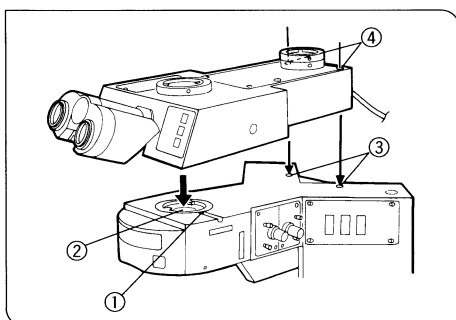

Fig. 60
1. Using the provided Allen screwdriver, loosen the observation tube clamping screw ① on the microscope frame (intermediate attachment).
2. Insert the circular dovetail mount at the bottom of the multi-port head into the opening on the microscope frame, aligning the two rear protrusions with the two indentions ③ on the microscope frame.
3. Using the Allen screwdriver, tightening the clamping screw ①.
4. To clamp the attachment, insert the Allen screwdriver into the two holes ④ on top of the multi-port head and tighten the screws inside. (Fig. 60)